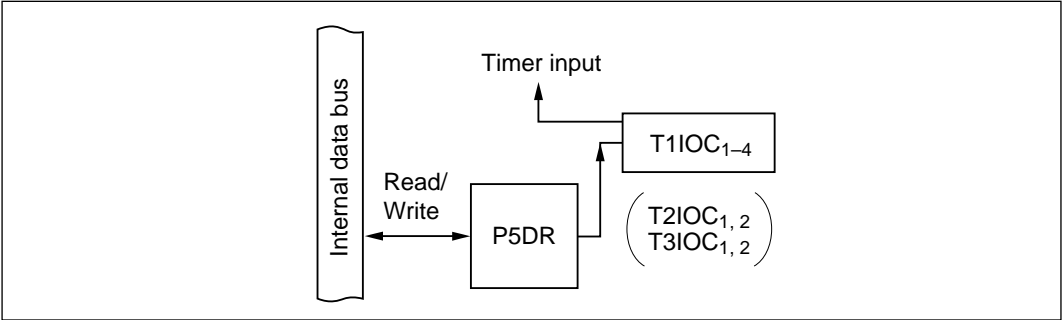

Figure 10-32 Input Capture Combined with General-Purpose Output (Modes 1 to 7)
(4) Timer Input Combined with General-Purpose Output (Modes 1 to 7): Figure 10-32 shows a block diagram illustrating the input capture function when combined with general-purpose output. Table 10-25 indicates register read/write data. An input capture pin can also function as an output port, in which case the output value is input to the timer.